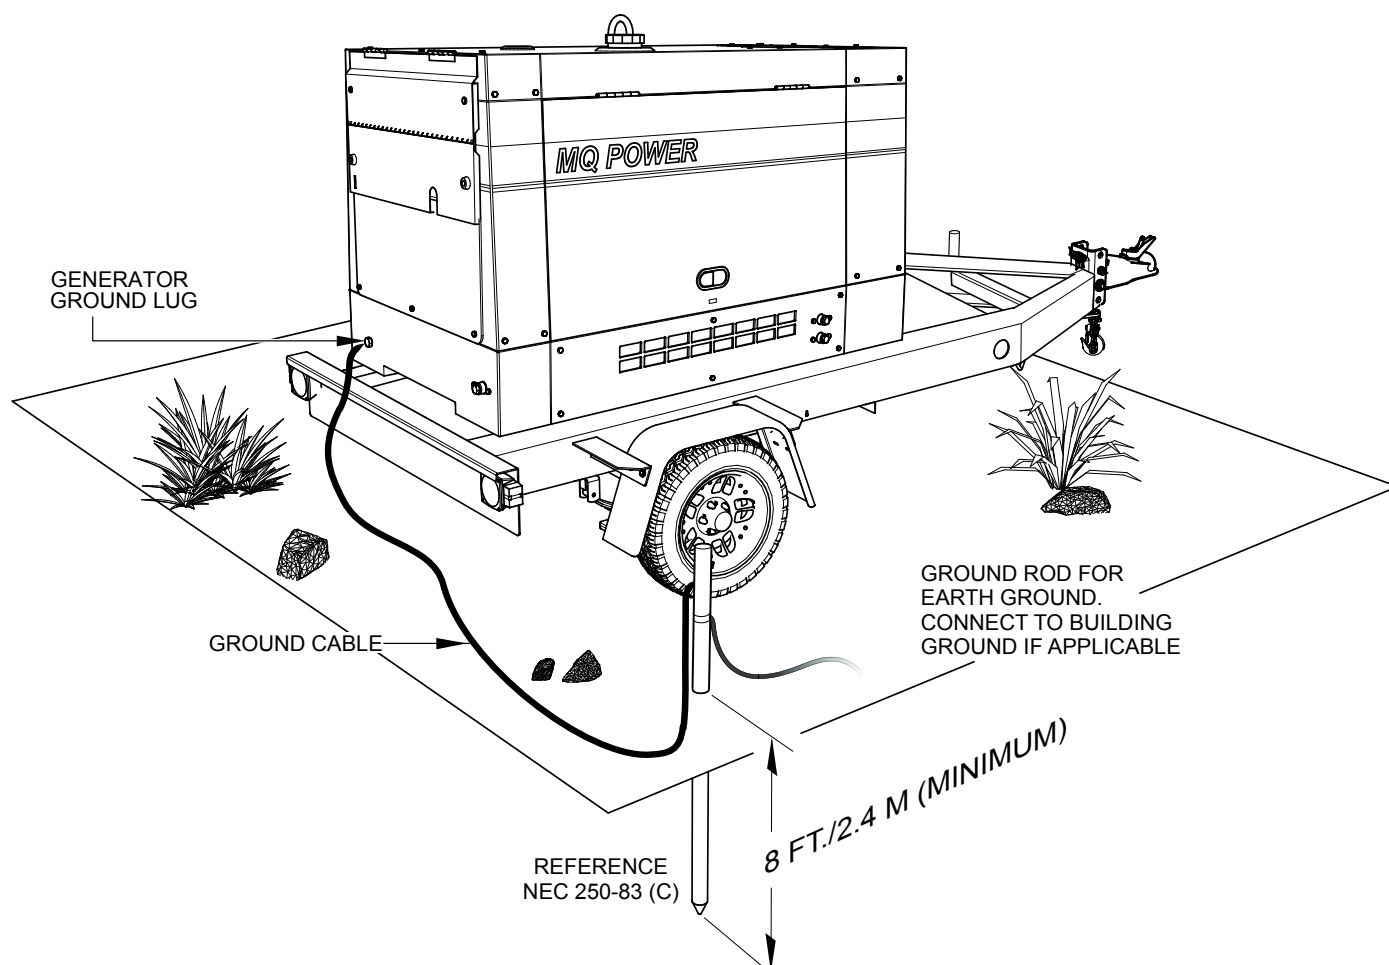

Figure 3. Generator Grounding
At the generator, connect the terminal of the ground cable between the lock washer and the nut (Figure 3) and tighten the nut fully. Connect the other end of the ground cable to a suitable earth ground (ground rod).
2. When grounding the generator (Figure 3), connect the ground cable between the lock washer and the nut on the generator and tighten the nut fully. Connect the other end of the ground cable to earth ground.